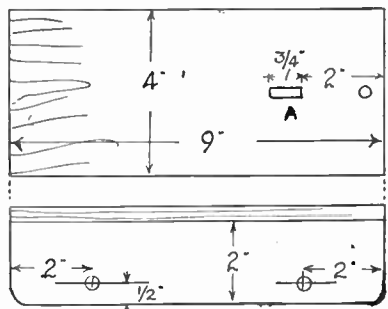

Fig. 1
The platform is shown in plan and elevation at Fig. 1. Make it from  $\frac{3}{4}$  in. deal. Cut the platform to dimensions given, and on a centre line, at the distance from the fore end shown, cut the slot (A) about  $\frac{1}{4}$  in. wide. The sides of the platform, cut to length and width, have holes for the axles of the wheels bored in the positions indicated in the diagram. As the axles are pieces of  $\frac{3}{8}$  in. round rod, the holes will, of course, be bored to suit. Make the inside of these holes smooth with glasspaper to better ensure the smooth running of the wheels. A strip of the glasspaper rolled round a pencil will do this job.